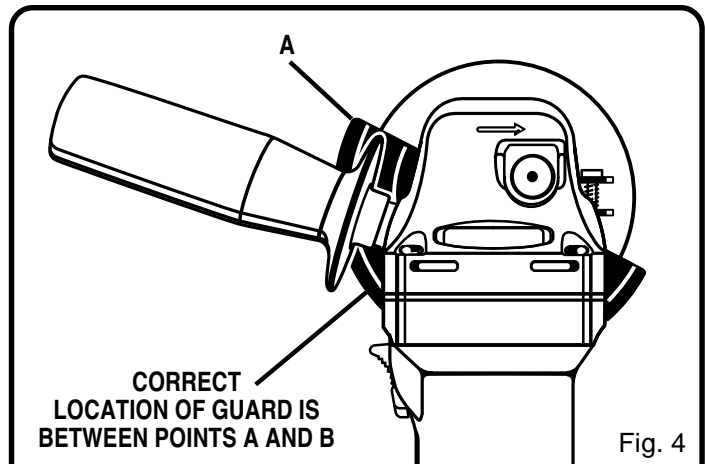
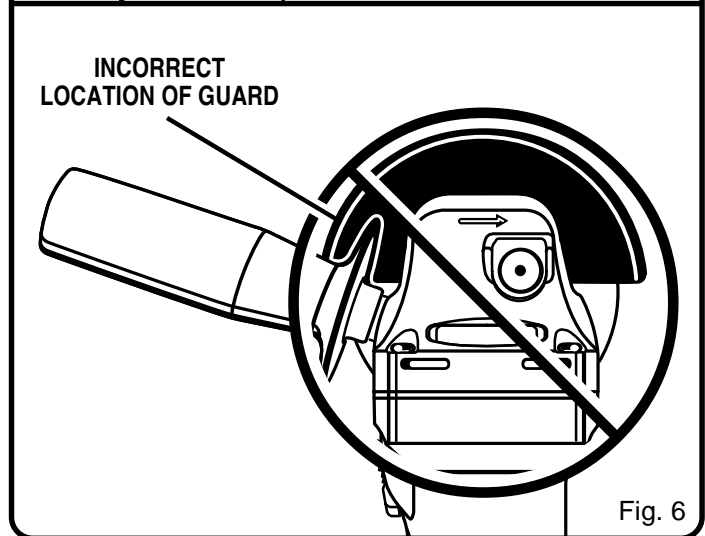

Fig. 4
Fig. 6
The guard on your grinder should be correctly installed depending on which side the handle is mounted. **Never use your grinder without the guard correctly in place.** Figures 4, 5, and 6 show correct and incorrect locations of the guard.
Never place the guard so that it is on front of the grinder as shown in figure 6. This could result in serious injury because sparks and loose particles thrown from the grinding wheel would be directed toward the operator. Always place the guard in the correct location as shown in figures 4 and 5.
- If you are making adjustments, rotate the guard to its correct position as shown in figures 4, 5, and 9, then retighten clamp screw securely. **Never use your grinder without the guard in place and properly adjusted.** See Figures 4, 5, and 6.
- Rotate guard to the correct position as shown in figures 4, 5, and 6.